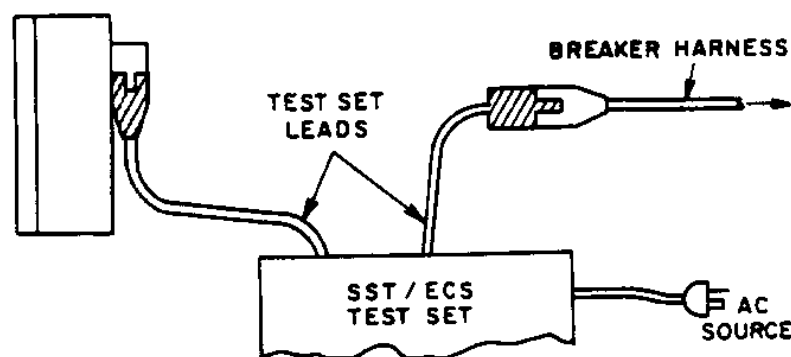

Fig. 4. Connection for Complete System test
3. The test set male connector lead need not be connected to the breaker harness for "Programmer Only" testing. However, the Fig. 4 connection should be used if "Complete System" tests are to be run also.
**"Complete System" Test - Mode "B" (See Fig. 4)**